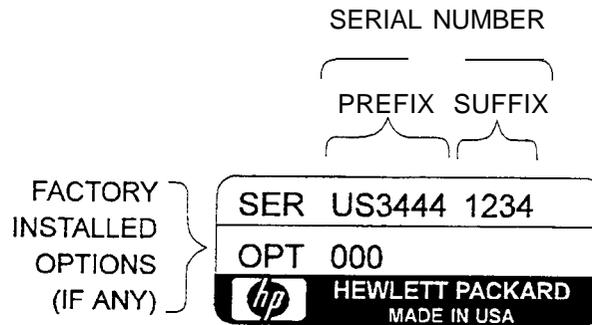

Figure 1-1. Typical Calibration Kit Serial Number Label
- Figure 1-1. Typical Calibration Kit Serial Number Label1-2
A typical serial number label is shown in Figure 1-1.